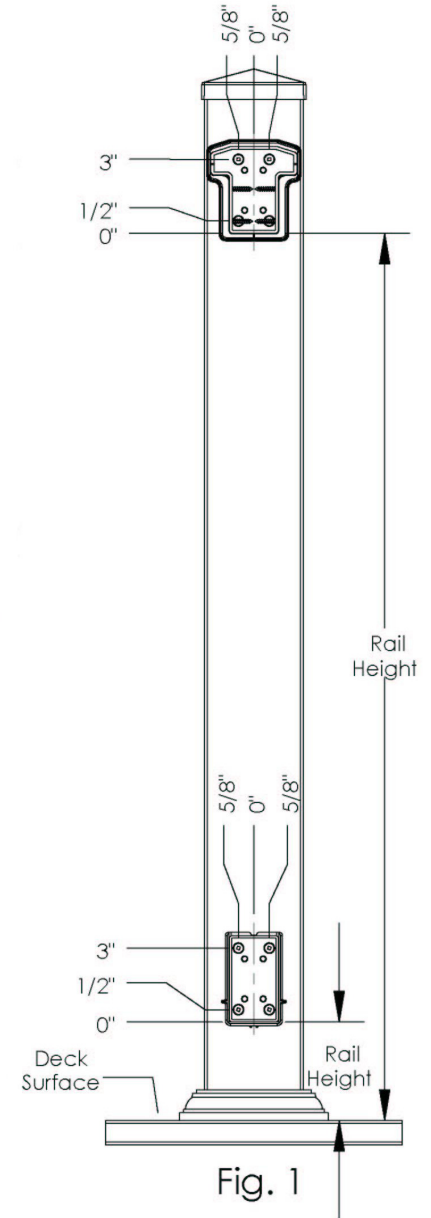

Fig. 1
1) Layout locations for brackets as shown in Fig. 1 (four holes for each bracket). The Drop In Adapter Jig will also help with the locations for the brackets.